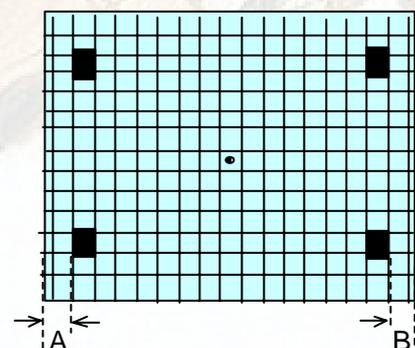

Fig.2-9 NTSC cross hatch
2. Adjust each distance of A (from ■ to left end on screen) and B (from ■ to right end on screen) so that they are equal. (Fig. 2-9)